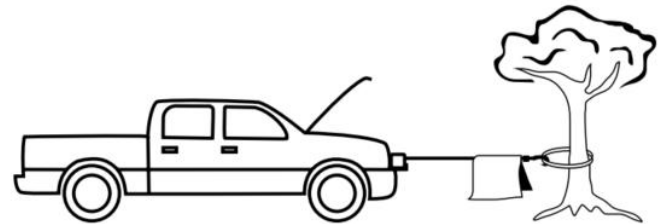

Fig. 3
7. Never hook the wire rope back to itself because it could damage the wire rope. Use tree trunk savers (See fig. 3)
10. It is important that lay a blanket or jacket over the wire rope near the hook end when pulling a loads (See fig. 3). This will slow the snap back of a broken wire rope and help to prevent serious injure and damage.